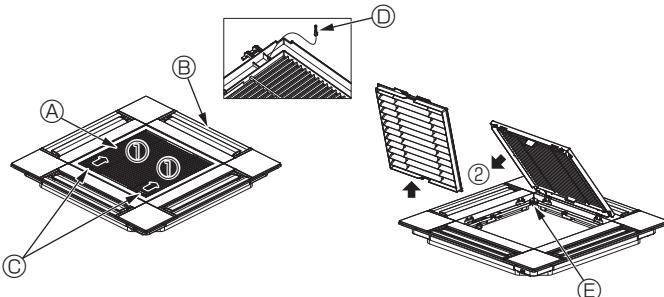

Fig. 10-3
10.2.1. Removing the intake grille (Fig. 10-3)
- Slide the levers in the direction indicated by the arrow ① to open the intake grille.
- With the intake grille in the “open” position, remove the hinge of the intake grille from the grille as indicated by the arrow ②.